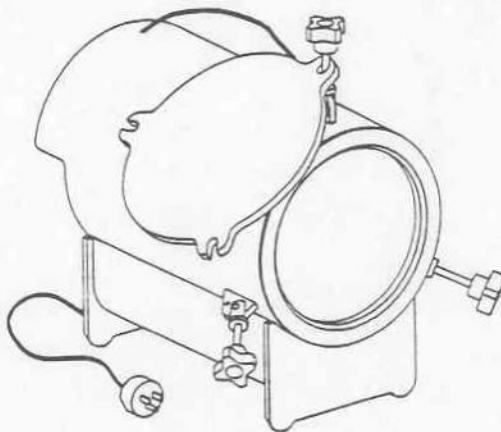

FIGURE 2-2. THE STERILIZER DOOR OPENED
- f. Turn the Sterilizer knobs counterclockwise about four turns to loosen the door. Rotate the bottom of the door up above the Sterilizer body and lay the door down onto the top of the Sterilizer (figure 2-2).